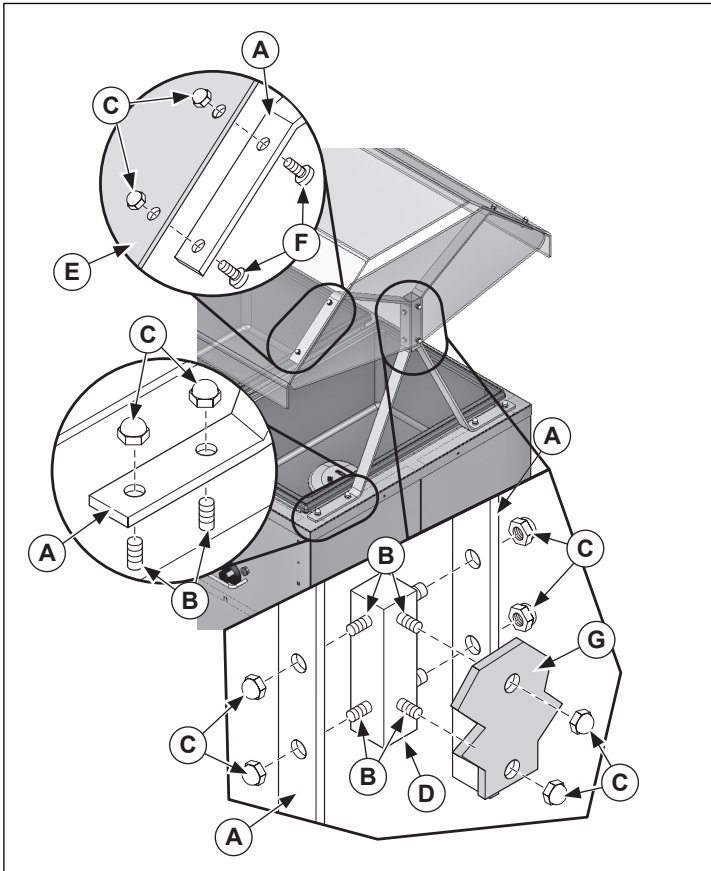

**Figure 1. One Piece Breath Guard Installation**
1. Install the breath guard uprights (A) to the studs (B) securing with cap nuts (C) as shown. See Figure 1. Repeat for all four uprights.
1. Install the breath guard uprights (A) to the studs (B) securing with cap nuts (C) as shown. See Figures 1 and 2. Repeat for all four uprights.